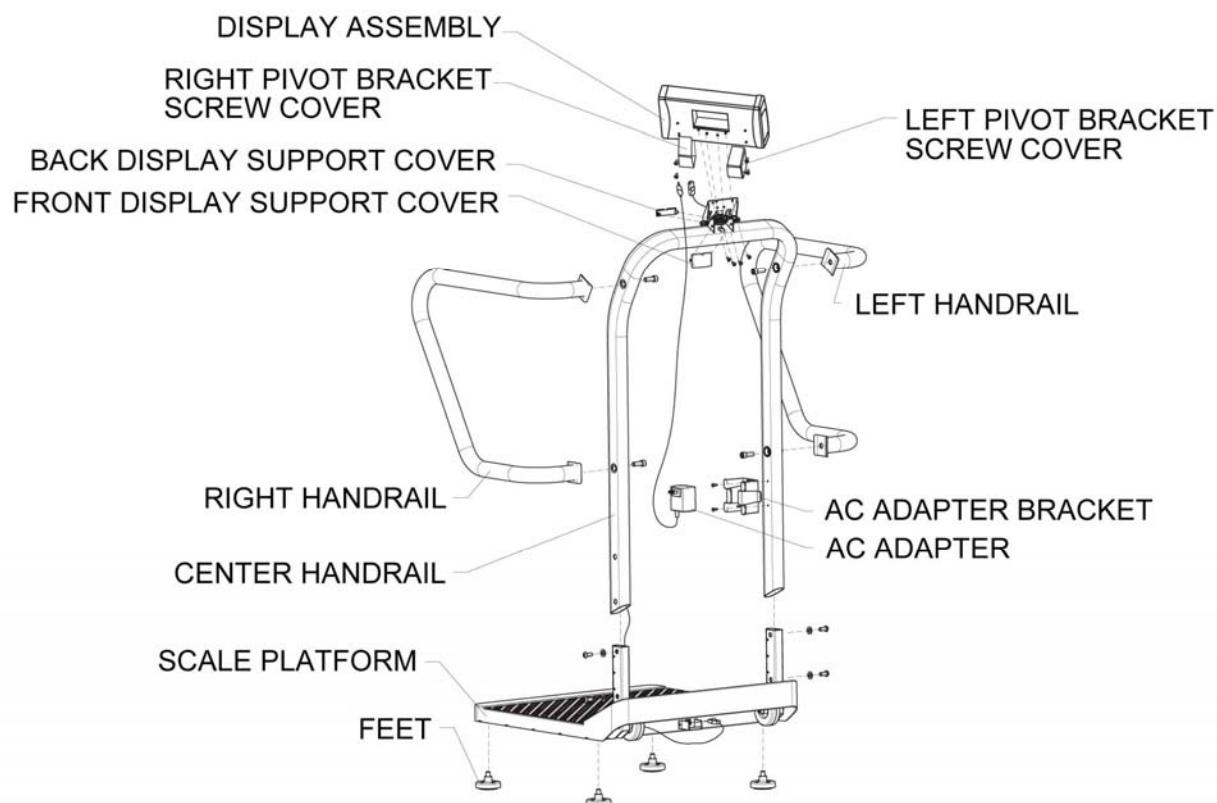

Figure 2
2. Locate and pick up the center handrail. Find the load cell cable connector, located at the bottom of the center handrail. Untie it and pull it out the bottom (see Figures 2 & 3 on pages 9 & 10).
3. Position the center handrail over the handrail supports on the platform and feed the cable through the handrail support hole located on the right handrail support in the platform. Be sure not to pinch the cable (see Figures 2, 3, & 7 on pages 9, 10, & 11).
8. Pull the excess cable through the top of the center handrail (see Figure 2 on page 9).
9. Thread the (4) feet into the underside of the platform. Each foot should be completely hand tightened. Once tighten, back feet out 1-1/2 full turns. This allows for proper load cell operation for accuracy of the scale (see Figures 2 & 7 on pages 9 & 11).
12. Position the display assembly close to the display support. Plug the load cell cable connector into the load cell port on the rear of the display assembly (see Figures 2 & 6 on pages 9 & 11).
17. Attach the front and rear display support covers, applying light pressure to snap these covers into place (see Figure 2 on page 9).